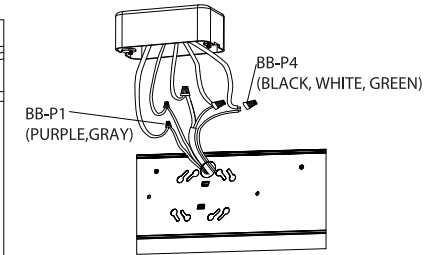

Figure 10
3. Remove the heat shrink tubing wrap from the ends of the black, white, green, purple and gray wires in order to expose the copper wires prior to connect the AC wires to the corresponding wires (BLACK to BLACK, WHITE to WHITE, GREEN to GREEN, PURPLE to PURPLE, and GRAY to GRAY) in the junction box and secure using wire nuts (Part BB). (Figure 10)
NOTE: -For proper connection, place the wire nuts (BB) over wires and twist clockwise until tight. (Figure 10)